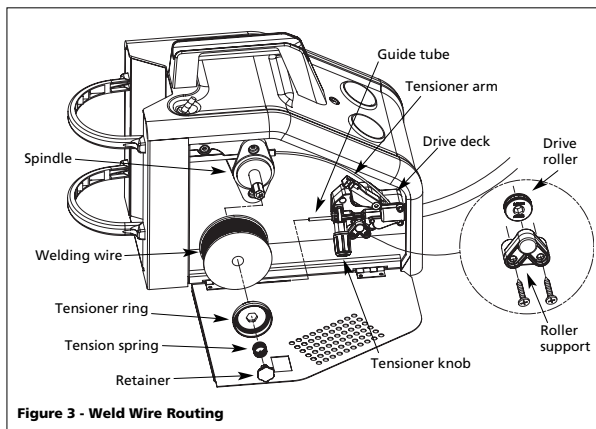

Figure 3 - Weld Wire Routing
- a. Diameter of welding wire matches groove in drive roller on wire feed mechanism (See Fig. 3). The drive roller is marked with metric sizes: .6mm = .024", .8 - .9mm = .030 - .035"